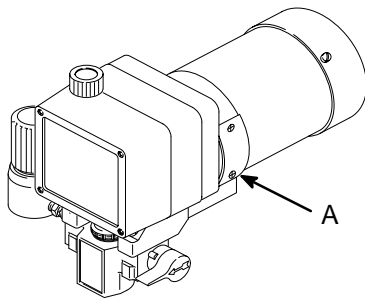

Fig. 13
1. Remove both inspection covers (A) and their gaskets. See Fig 13.